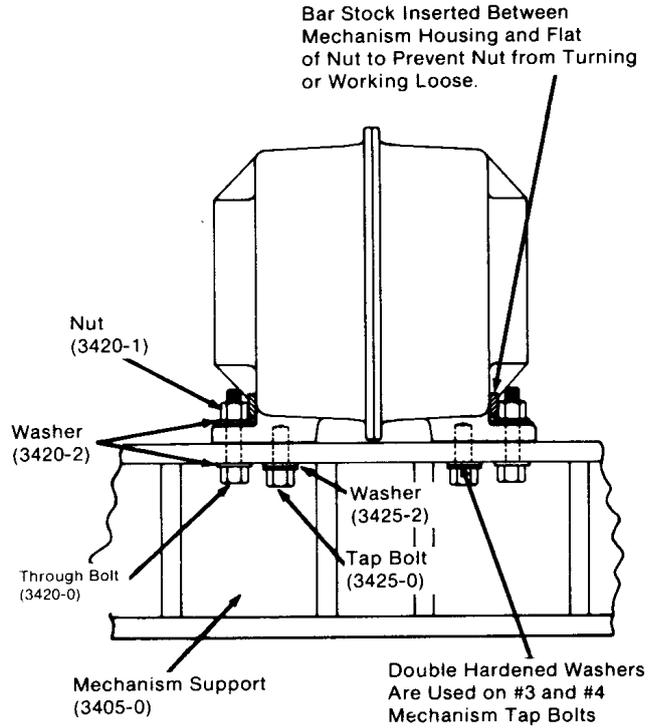
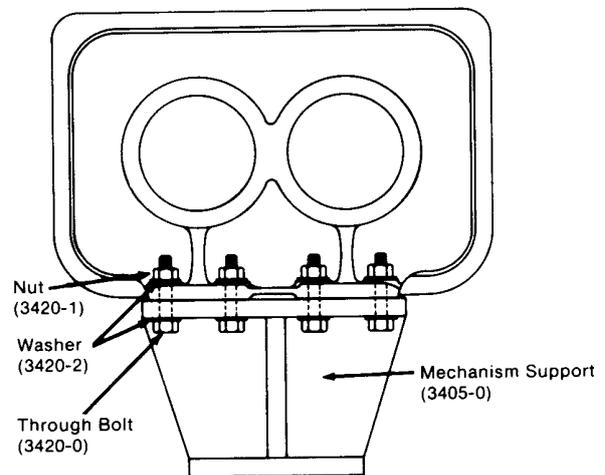

Figure 4.12 Mechanism mounting, No.2, No.3 and No.4.
Figure 4.13 Mechanism mounting, No.5 only.
Holes are drilled in the mechanism supports for tap bolts provided 3.2 mm approx. clearance. See Figure 4.13. Hold-down bolts (3420-0) are high strength, made of alloy steel.
1. Install through and tap bolts as shown in Figure 4.12 and Figure 4.13.